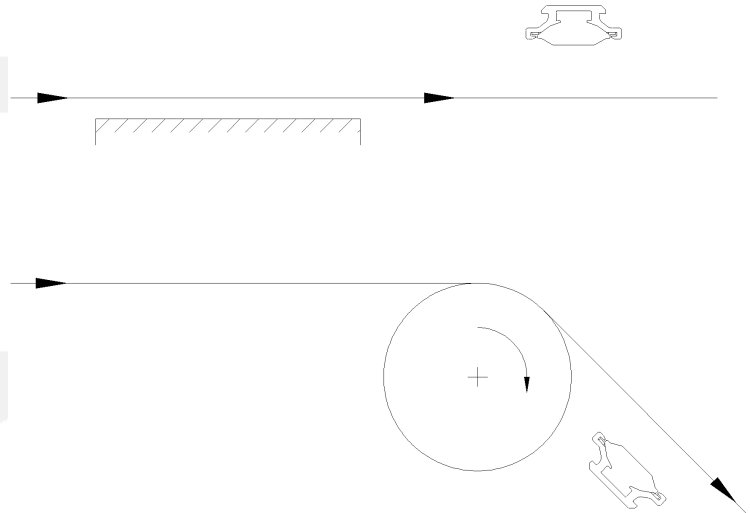

Figure 1
- Mount the linear ionizer so it's facing the side of the material that has the static charge. The ionizer should be as far away from grounded metal as possible. (see Figure 1)